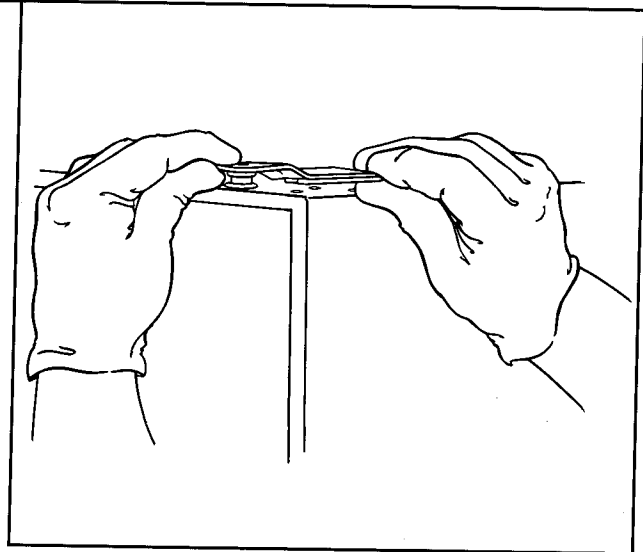

Figure 70
- b. Place top hinge plate on top of spacers on top right side of refrigerator. See Figure 70.